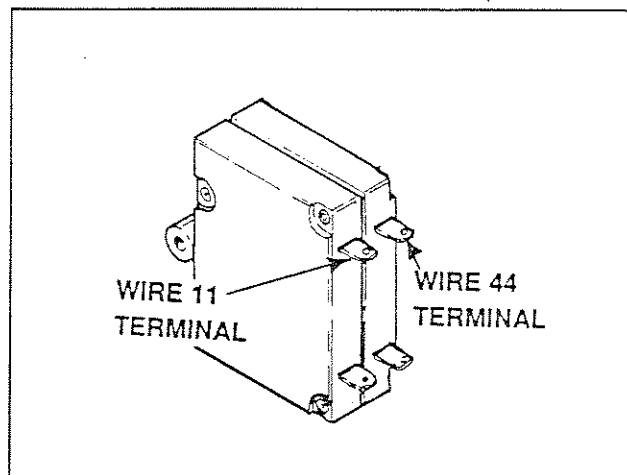

Figure 1. Generator Main Circuit Breaker Test Points
If you suspect the breaker may have failed, it can be tested as follows (see Figure 1):
1. With the engine shut down, connect the AC voltmeter test leads across the Wires 11 and 44 terminals of the generator main circuit breaker (see Figure 1). Test leads may also be connected across transfer switch terminal lugs E1 and E2, if desired. These connections will permit line-to-line voltages to be read.